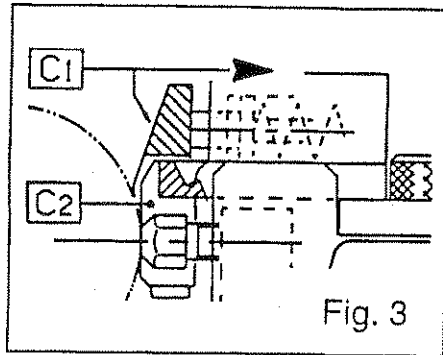

Fig. 3
- 6) Push reference prism D so as to press the zero-setting master against pretravel adjuster C, until it stops against C2: see Figure 3. If the pretravel adjuster is equipped with a pusher, C1, you must overcome its pressure.